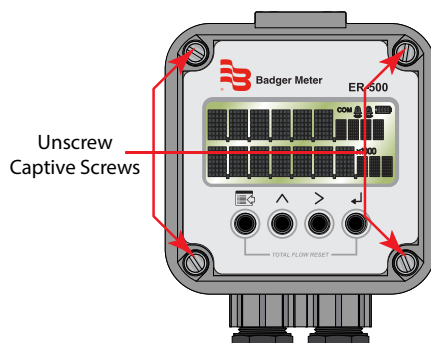

Figure 13: Opening the ER-500
1. Unscrew the four captive screws on the front panel to gain access to the battery (see *Figure 13*).